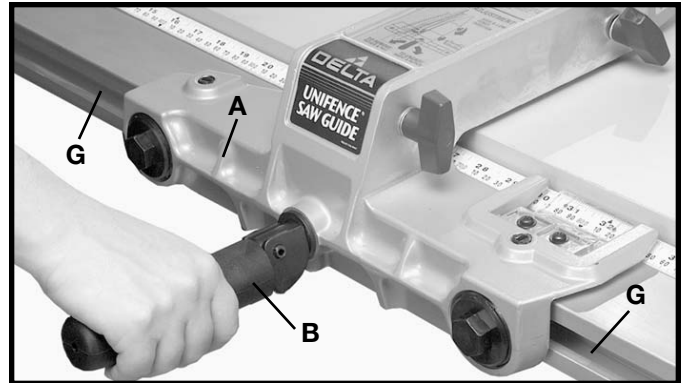

Fig. 35
2. Place fence body (A) Fig. 35, onto the guide rail as shown, making sure clamp bracket is inserted into channel (G) on rail. Notice that the clamp handle (B) is turned to the left indent position.